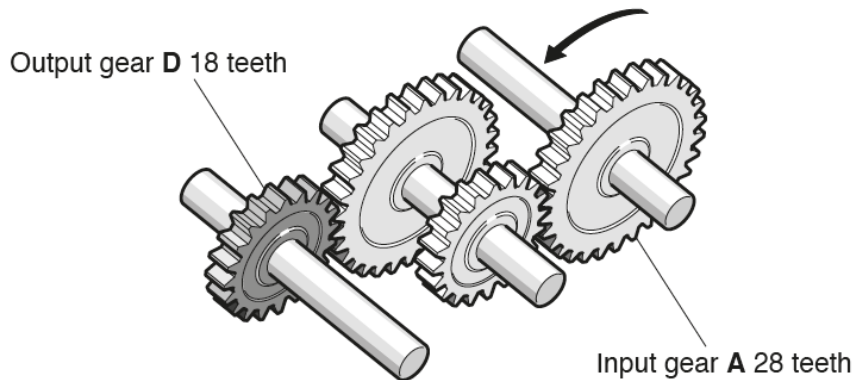

Fig. 7
5 Fig. 7 shows a mechanism used in a toy car.
(a) (i) Draw an arrow on Fig. 7 to show the direction of rotation for gear D. [1]
Candidates were required to draw an arrow on gear D in Fig. 7 to show the direction of travel. Similarly to parts 2(c)(ii) and 3b(i), more than an expected number of candidates omitted to respond, suggesting that the candidates did not read the instruction to draw an arrow, before moving on to part (ii).
While many candidates answered correctly with “compound gears”, not all candidates appeared to read the question correctly to give the type of gear arrangement shown, but instead simply stated “spur gears” with reference to the type of individual gears in Fig. 7.
(iii) Give **one** advantage of using the type of gearbox shown in Fig. 7 for the toy car.
- (b) A DC motor is to be connected to the gear train shown in Fig. 7 to power the car.
Candidates across the ability range answered less well than expected for this part with very few candidates giving answers that could be credited with the full marks available. Candidates were required to describe a mechanical system to transmit power from the motor to the gearbox by connecting a motor to the gear chain shown in Fig. 7, such as using a driveshaft, pulley or worm gear arrangement. Some candidates incorrectly described how to power the motor rather than provide an answer to connect the motor to the gears.